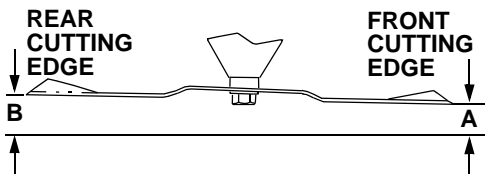

Figure 22
3. Refer to Figure 22. Measure and record the distance from the front cutting edge to the ground (measure A), and from the rear cutting edge to the ground (measure B), for both outer blades. The front edge of each blade (measure A) should be lower than its back edge (measure B) by approximately 1/8 inch.